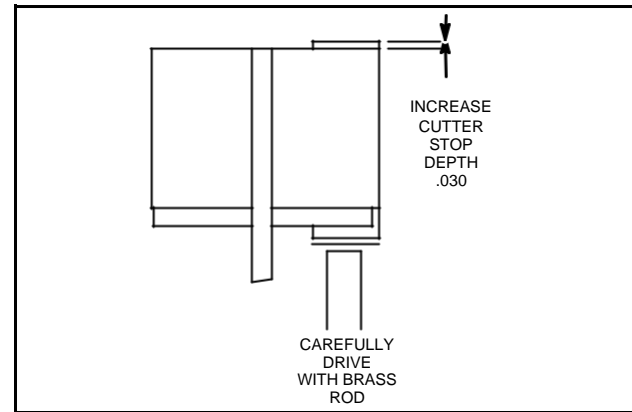

Fig. 27 – Modify Tool #19131
1. Modify Tool #19131 counterbore cutter as shown, Fig. 27.